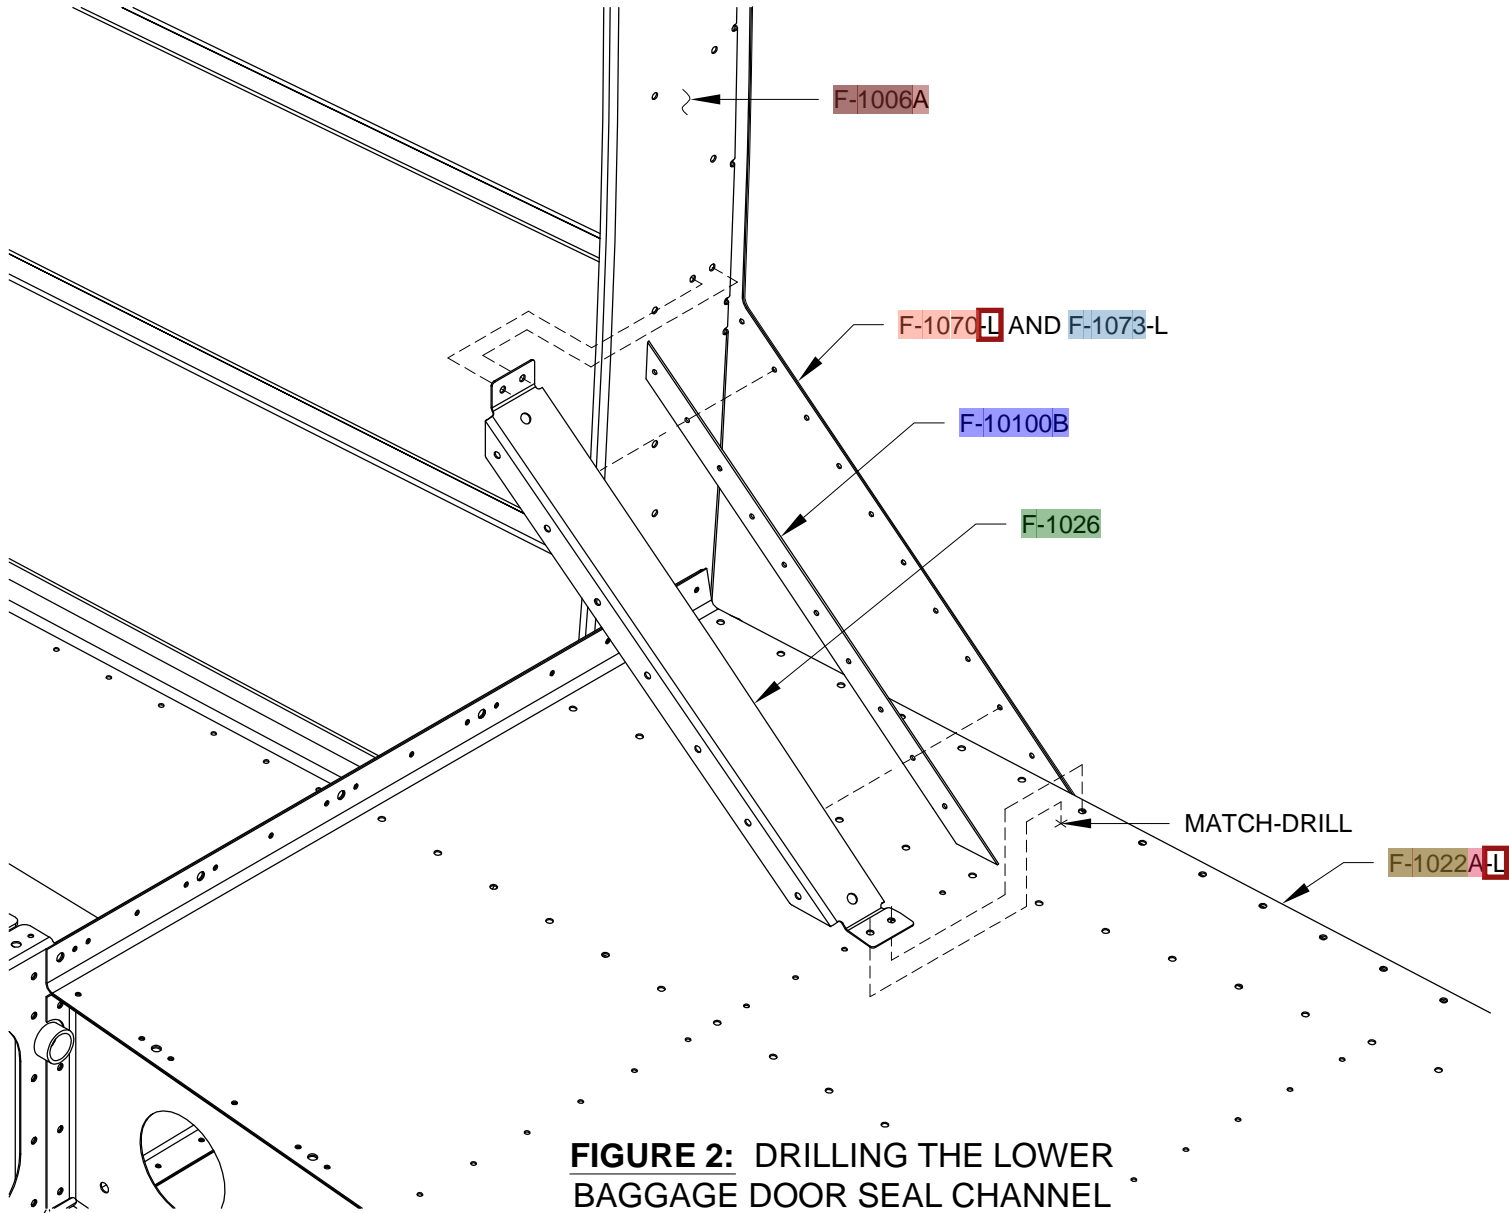

FIGURE 2: DRILLING THE LOWER BAGGAGE DOOR SEAL CHANNEL
Step 2: Final-Drill #40 and dimple the holes in the F-10100B Baggage Door Shim and F-1026 Lower Baggage Door Seal Channel which are common to the F-1070-L and F-1073-L Side Skins. See Figure 2. The baggage door shim is not symmetrical, be sure to dimple in the correct direction.
Step 3: Cleco the F-1026 Lower Baggage Door Seal Channel and the F-10100B Baggage Door Shim to the F-1070-L and F-1073-L Side Skins as shown in Figure 2. Cleco the two end-tabs of the lower baggage door seal channel to the F-1006A Bulkhead and the F-1022A-L Baggage Floor.